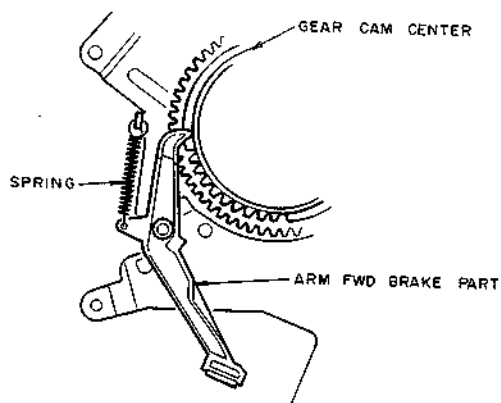

Fig. 4-11
7) Attach the ARM FWD BRAKE and Spring as shown in Fig. 4-11.